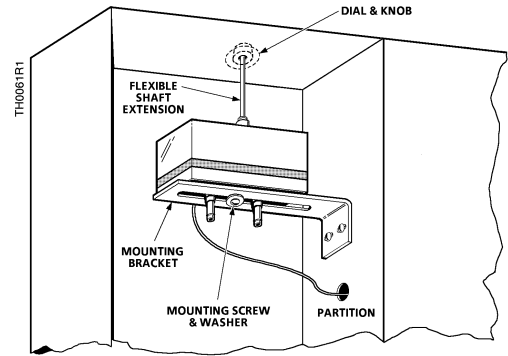

Figure 6. Mounting with Extension Shaft.
- If there is not enough room to mount the thermostat in a convenient location, or if the set point dial must be in the same compartment as the fan switch, order an extension shaft kit (188-101). The thermostat may be mounted in any convenient location within the eight-inch length of the shaft extension cable shown in *Figure 6*.